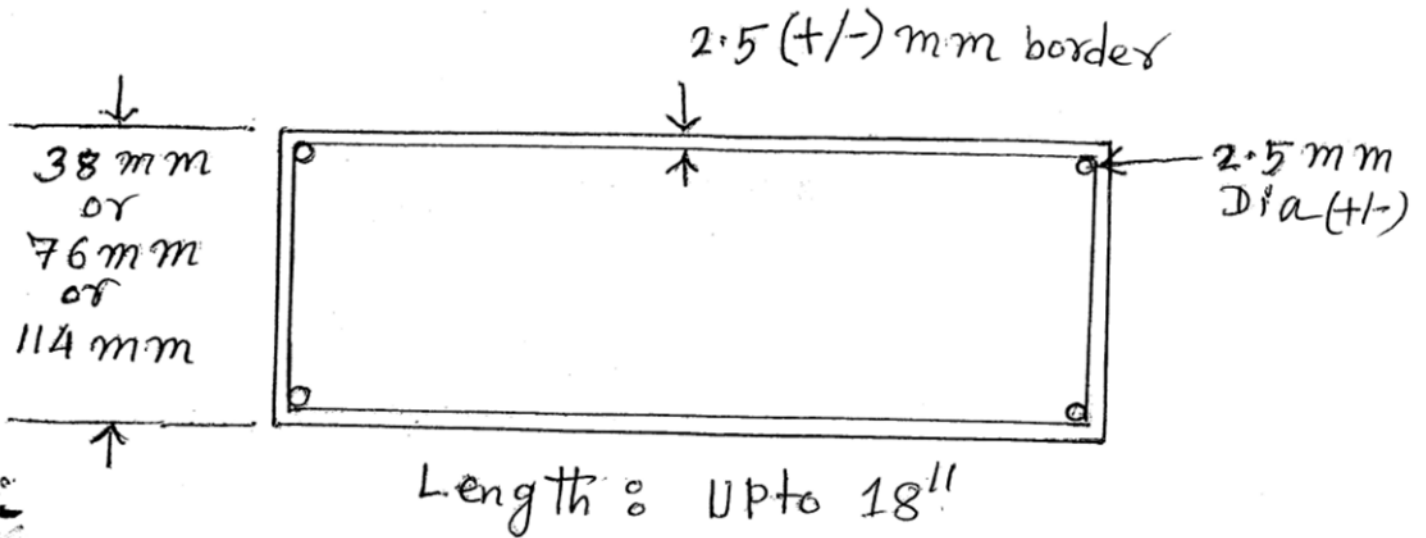
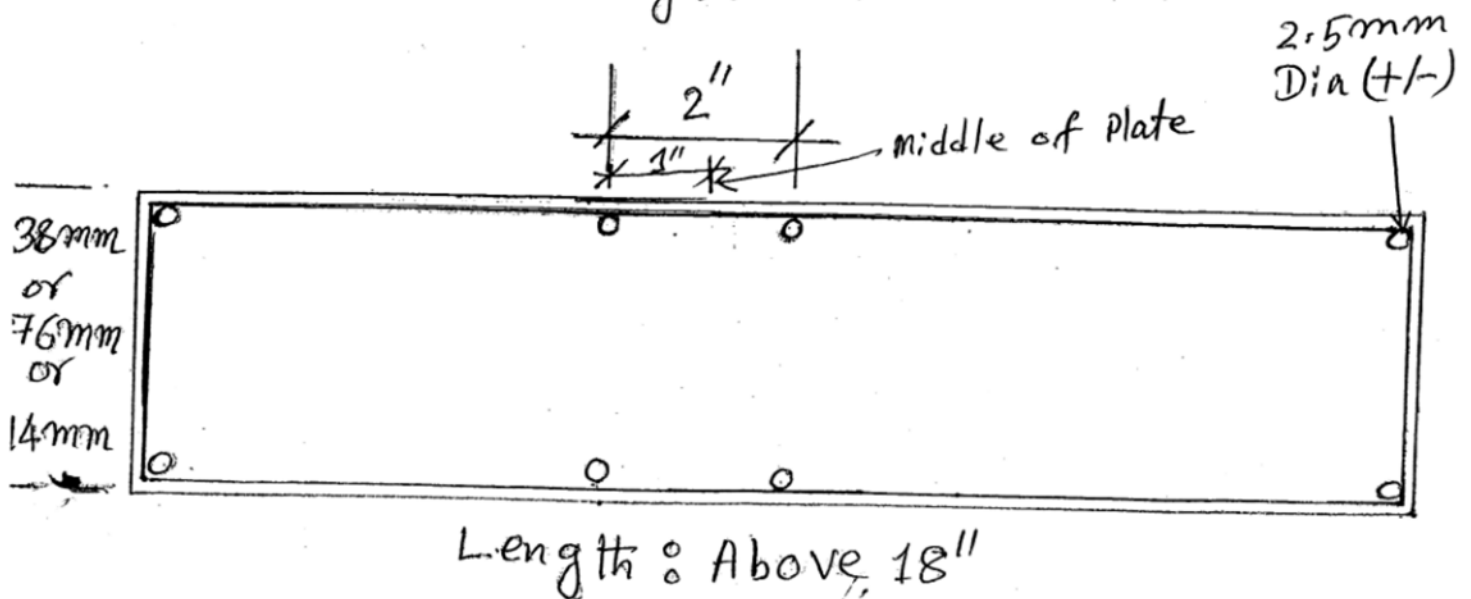

Figure-1
Figure-2
* Measurement of hole dia and border are same for both Figure-1 & Figure-2